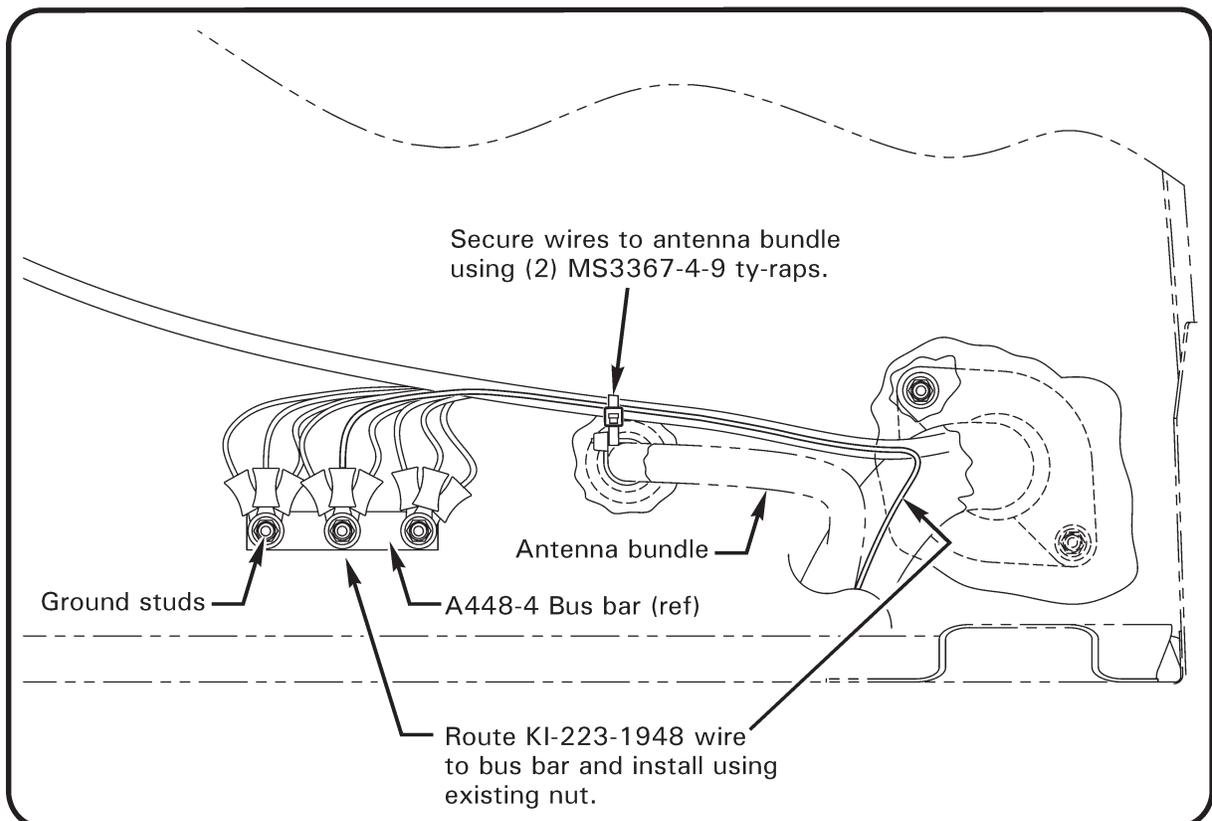

FIGURE 2 Bus bar ground location
5. Route wire (-1948) along F059 harness wires and thru NAS557-14A grommet on firewall, displacing B270-5 sealant as necessary, to ground bus depicted in Figure 2. Strip end of wire and crimp on B260-3 ring terminal. Inspect crimp per MM § 20-94 and verify security of terminal. Install terminal on least-populated ground stud using existing nut. Secure wires to harness using appropriately-sized ty-raps as required. Remove redundant ty-raps as desired.